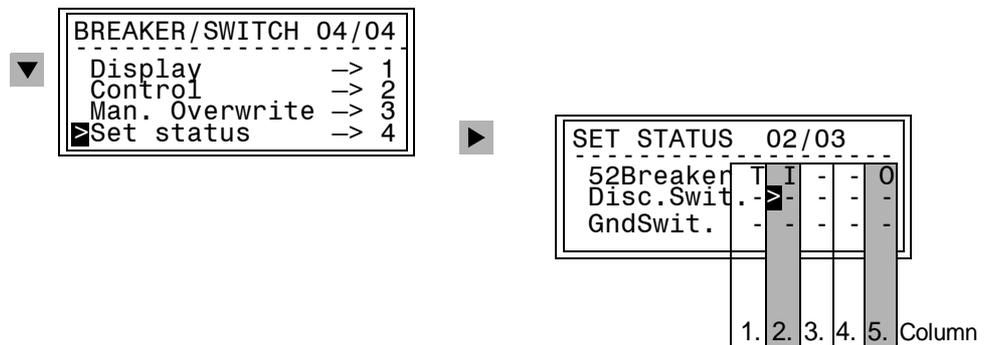

Figure 7-52 Set Status at the Front Panel (example)
Select the item **Set Status** with the **▼** key and switch to the next option using the **▶** key. **SET STATUS** appears, as shown in Figure 7-52.
The example in Figure 7-52 shows the position for the circuit breaker (52) was tagged (T) after the input ignore (I) was set, which means the message input was de-coupled from the system. The output block is active (O), so the command output is also de-coupled from the system. For the disconnect switch and the ground switch, no limitations are set.